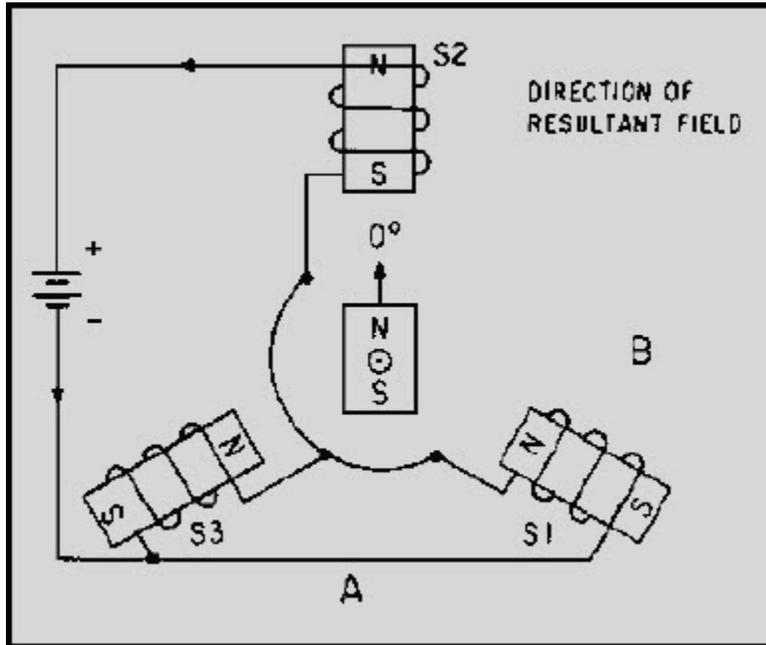

Figure 1-9 Operation of three electromagnets spaced 120° apart
Keeping in mind these basic points, consider how the bar magnet reacts to three electromagnets spaced 120° apart as illustrated in figure 1-9. In this figure, stator coils S1 and S3, connected in parallel, together have the same field strength as stator coil S2. The magnetic field is determined by current flow through the coils. The strongest magnetic field is set up by stator coil S2, since it has twice the current and field strength as either S1 or S3 alone. A resultant magnetic field is developed by the combined effects of the three stator fields. Coil S2 has the strongest field, and thus, the greatest effect on the resultant field, causing the field to align in the direction shown by the vector in view B of the figure. The iron-bar rotor aligns itself within the resultant field at the point of greatest flux density. By convention, this position is known as the zero-degree position. The rotor can be turned from this position to any number of positions by applying the proper combination of voltages to the three coils, as illustrated in figure 1-10, view (A), view (B), view (C), view (D), view (E), view (F).